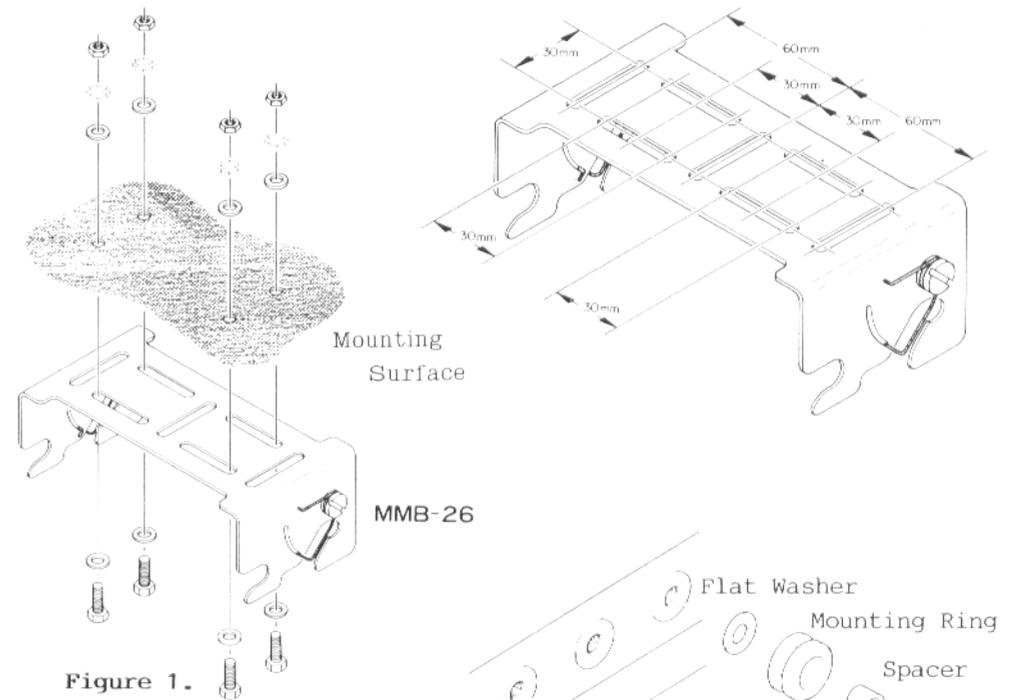

Figure 1.
- (1) Use the mounting bracket as a template for positioning the mounting holes, after determining the proper location with sufficient clearance for the transceiver. Use a 3/16" bit for drilling the holes. Secure the bracket with the screws, washers and nuts supplied, as shown in Figure 1.